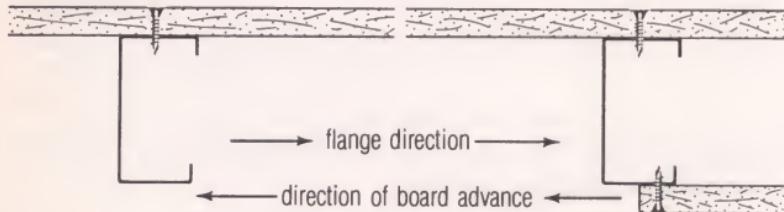

Fig. 5
**Prevention:** Install steel studs with all flanges pointed in the same direction. Then install panels by advancing in the direction opposite the flange direction (Fig. 5).